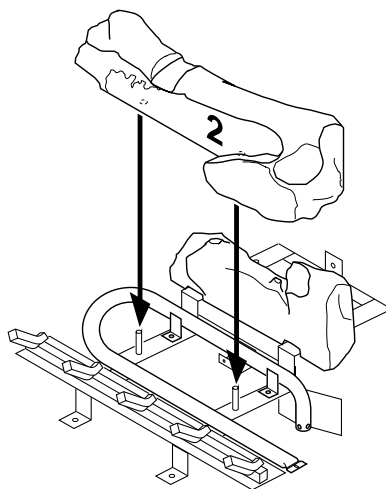

Figure 54 - Installing Log No. 2
2. Rest log #2 (large front log) on the pins on the front part of the grate (see Figure 54).